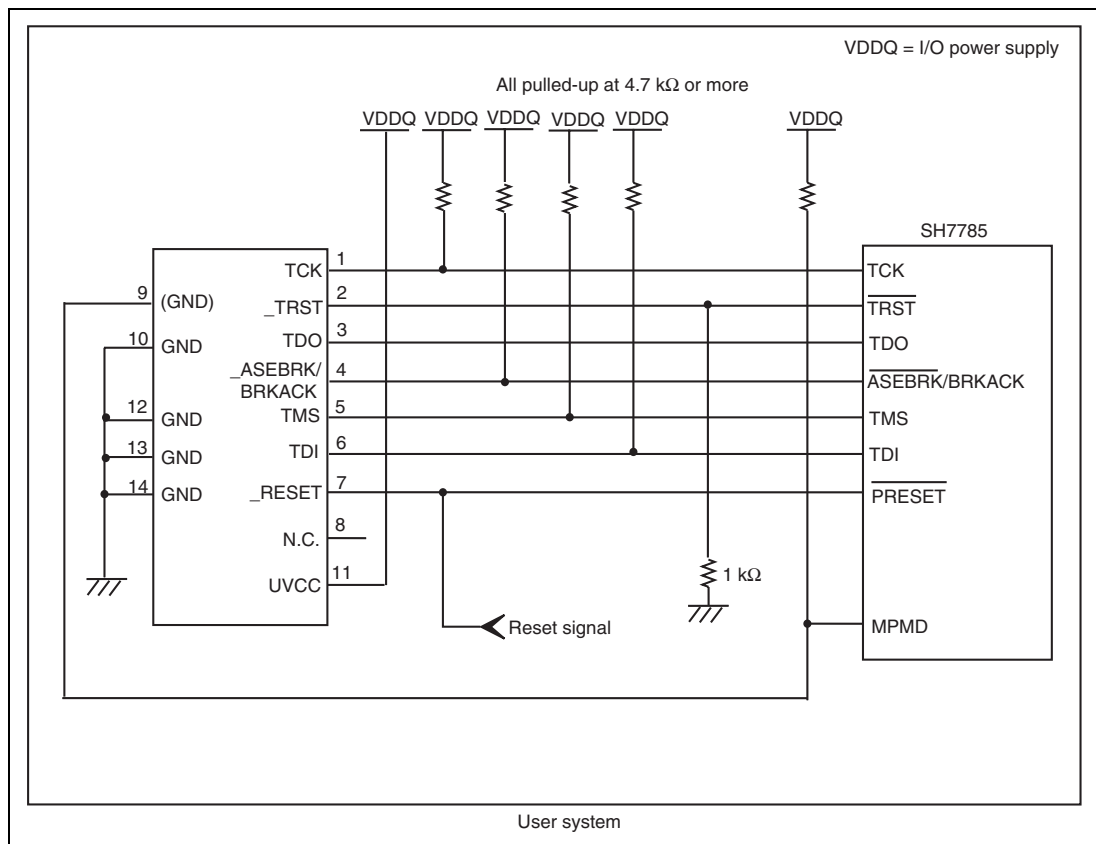

Figure 1.4 Recommended Circuit for Connection between the H-UDI Port Connector and MPU when the Emulator is in Use (14-Pin Type)
Figure 1.4 shows a recommended circuit for connection between the H-UDI and AUD port connectors (14 pins) and the MPU when the emulator is in use.
- (1) When the emulator is used: MPMD = 0
- (2) When the emulator is not used: MPMD = 1Figure 1.4 shows an example of circuits that allow the MPMD pin to be GND (0) whenever the emulator is connected by using the user system interface cable. When the MPMD pin is changed by switches, etc., ground pin 9. Do not connect this pin to the MPMD pin.
6. The resistance value shown in figure 1.4 is for reference.
When the circuit is connected as shown in figure 1.4, the switches of the emulator are set as SW2 = 1 and SW3 = 1. For details, refer to section 3.8, Setting the DIP Switches, in the SuperH™ Family E10A-USB Emulator User's Manual.